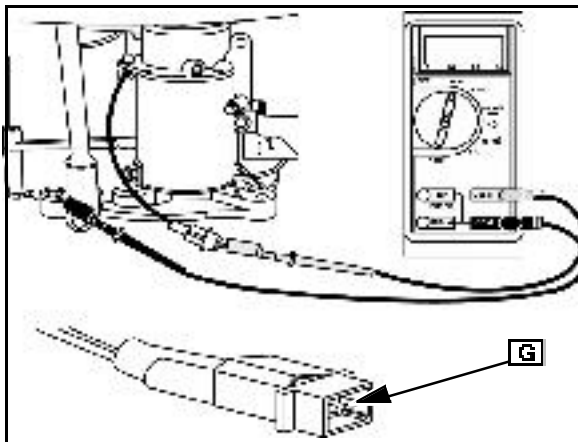
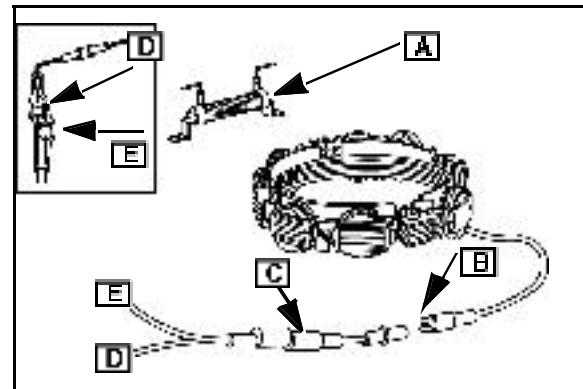

Fig. 29
Fig. 30
2. Attach RED test lead clip to AC output terminal ([G] Fig. 29).
The tri-circuit alternator provides AC through a single output lead and connector ([B] Fig. 29) to a wiring harness containing two diodes (C). One diode rectifies the AC to 5 amps negative (-) DC for lights (D). The second diode rectifies the AC to 5 amps positive (+) DC for battery charging and external loads ([E] Fig. 30).